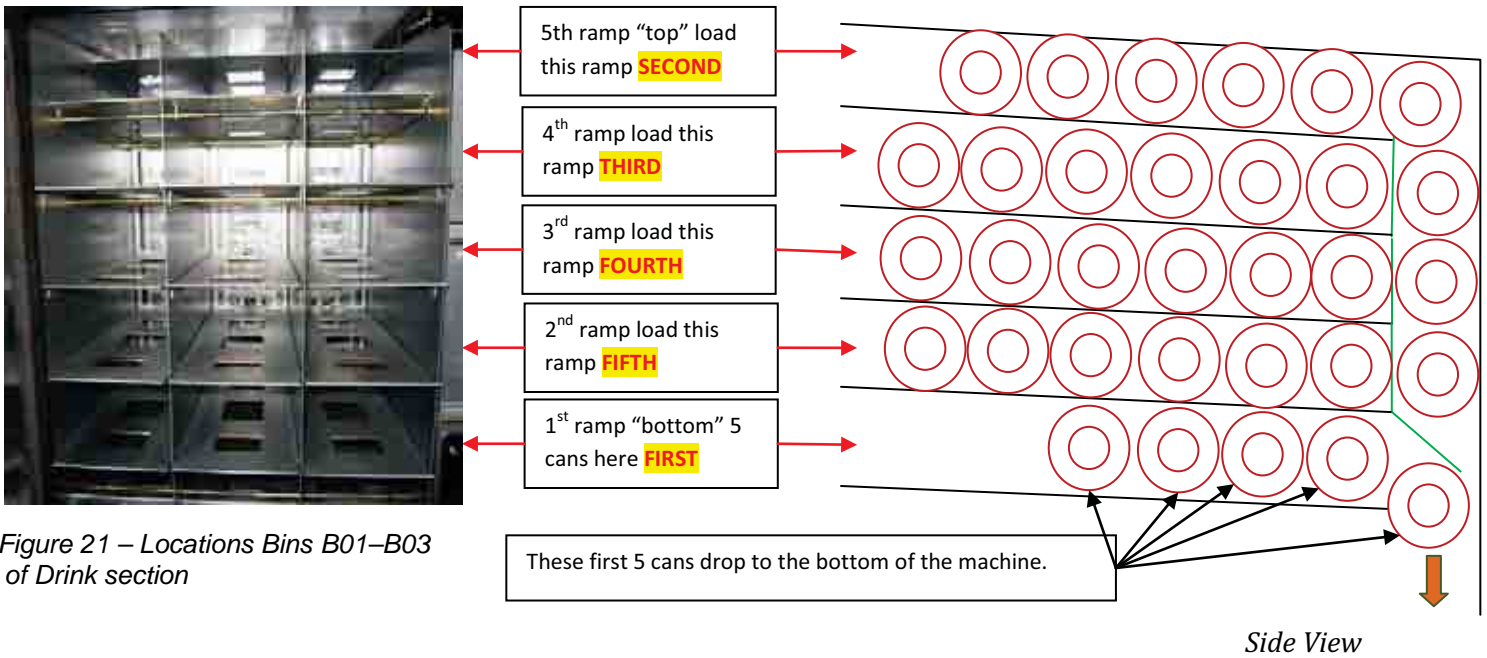

Figure 21 – Locations Bins B01–B03 of Drink section
1. The 12oz cans may be loaded in either direction side to side (*Figure 21*).
- a. Load the first 5 cans in the “**bottom**” (1st) ramp of B01, B02, and B03 (*Figure 21*).
- b. Then completely fill the “**TOP**” (5th) ramp of B01, B02, and B03 (*Figure 21*). *Note how the cans close all the rear “gates” as they fill up the back and block them from opening.*
- c. Then load cans in the remaining ramps until full (*Figure 21*). The order really doesn’t matter after steps a & b have been accomplished.
Figure 21 a – Example of how to refill cans in B01 –